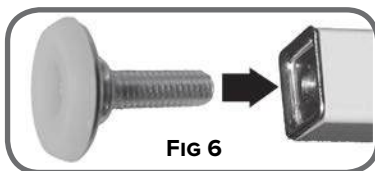

FIG 6
1. Place chair on side and install four (4) **Glide Feet** in threaded holes on the bottom of the **Chair Frame** (FIG. 6 & 7).